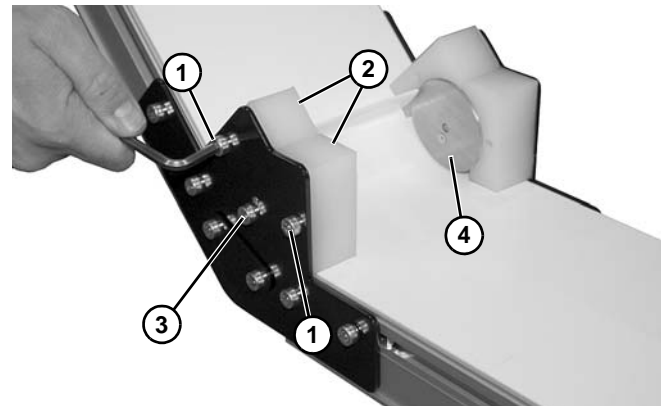

Figure 58
- If equipped with a lower knuckle, remove screws (**Figure 58, item 1**) and remove guards (**Figure 58, item 2**) on both sides of knuckle.
- Remove screws (**Figure 58, item 3**) and remove roller bearing assembly (**Figure 58, item 4**) on both sides of knuckle.